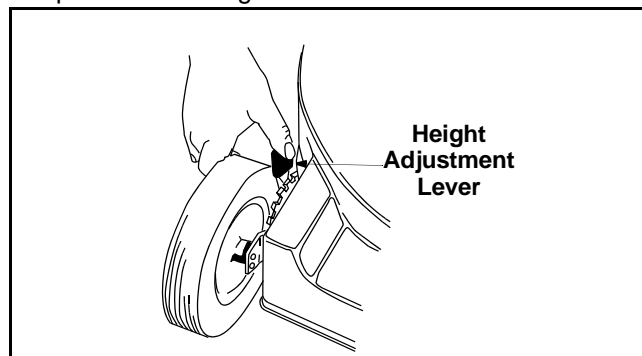

Figure 10
- Simply depress the lever towards wheel and move wheel and lever assembly to desired position. All wheels must be placed in the same relative position. See Figure 10.